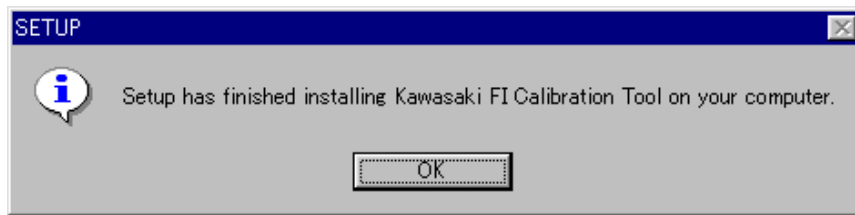

Fig. 8 Setup Finish Screen
- (6) After the **Kawasaki FI Calibration Tool program** is installed, the Setup finish screen shown in Fig. 8 appears.